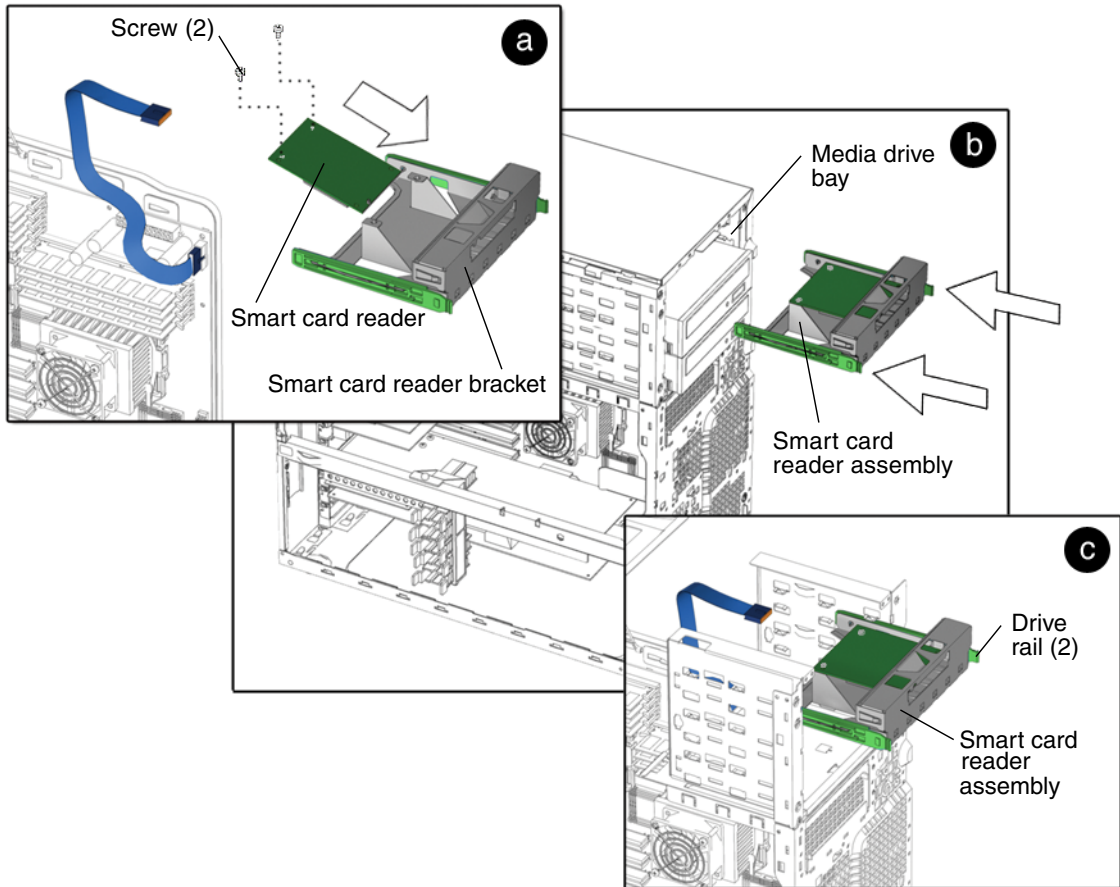

FIGURE 12-18 Installing the Smart Card Reader
2. Locate the smart card reader bracket (FIGURE 12-18).
4. Insert the smart card reader into the smart card reader bracket (FIGURE 12-18).
5. Install the smart card reader assembly (FIGURE 12-18).